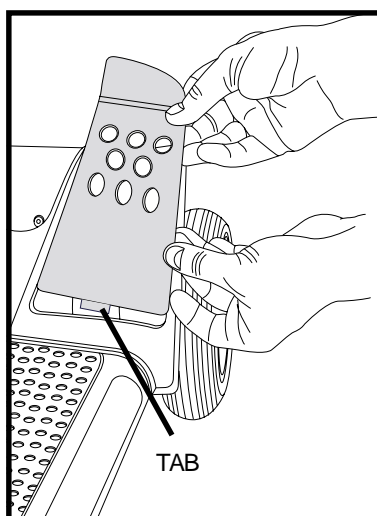

Figure 10. Front Fender Panel
2. Push through the hole to separate the piece from the Travel Scooter. See figures 10, 11 and 12.
**NOTE:** When installing the front fender panel, make sure the tab at the bottom of the panel is inserted into the tab opening before securing the panel. See figure 10.